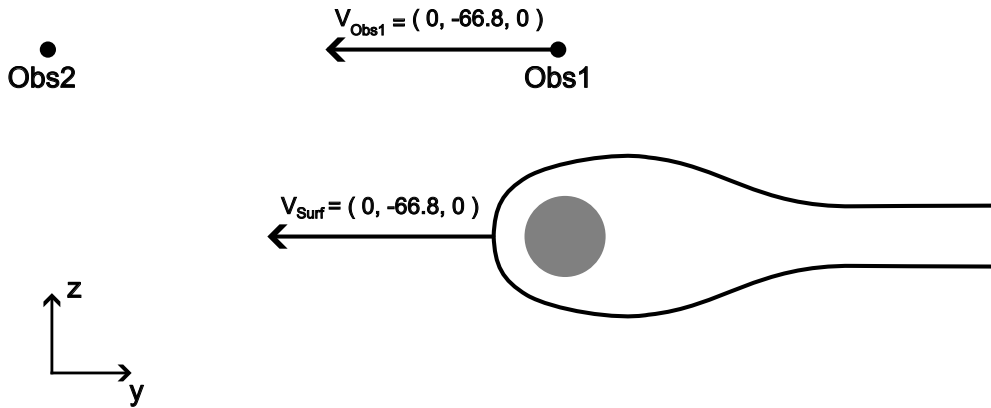

Fig. 1.3: FWH surface and observer motions - FWH (quiescent medium) frame of reference
When the FWH equations are derived, we make an important assumption - that of a ‘quiescent medium’ (i.e. still air, with a free-stream velocity of zero). Clearly, with a freestream velocity of  $(0, 66.8, 0)$ , the flow in our CFD simulation does not satisfy this condition. In order to use the FWH solver, we therefore have to perform a co-ordinate transformation, as in Fig. 1.3. In the `run_fwh` utility, this co-ordinate transformation is performed automatically, whereas in the *fwh python module* we set up the surface and observer motions through the FWH quiescent medium manually.
The centre of the cylinder in the CFD mesh is at (0.25,0,0), and we want *Obs1* to always be (0,0,20) metres away from the cylinder centre during the FWH simulation. Since the cylinder ‘travels with’ the FWH surface (see Fig. 1.3), we can therefore say that the motion of the cylinder centre in the FWH co-ordinate frame is  $\mathbf{x}(t) = ((0.25, 0, 0) + (0, 0, 20)) + \mathbf{V}_{surf} t$ . We therefore set the motion of *Obs1* to be  $\mathbf{x}(t) = (0.25, 0, 20) + \mathbf{V}_{surf} t$ . We set *Obs2* to be stationary in the FWH reference frame, and to be coincident with *Obs1* at  $t=2.5$ . We save the outputs to a json file called *FWH\_data.json*.
*Obs1* moves through the FWH medium at a constant displacement from the cylinder centre (see Fig. 1.3). We see from our post-processing that the noise experienced by *Obs1* is dominated by a constant 10 Hz component, which is the shedding frequency of the cylinder. Various harmonics of the 10 Hz signal are present in the power spectral density plot for *Obs1*.